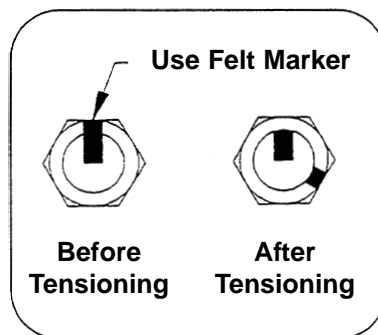
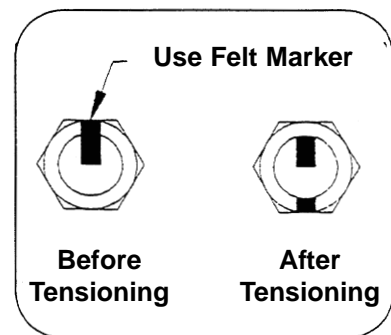

Figure 3-1a: A-325 Tensioning Procedure
Figure 3-1b: A-325 Tensioning
- Step 5* Using a felt-tip marker, mark the nuts and the ends of the bolts with a straight line as shown in Figure 3-1a and Figure 3-1b.
- Step 6* Tighten the nuts further with an extra long wrench until the nuts are moved 1/3 turn (120 degrees) as shown in **Figure 3-1a** for bolt lengths less than four diameters and 1/2 turn (180 degrees) as shown in **Figure 3-1b** for bolt lengths over four diameters.